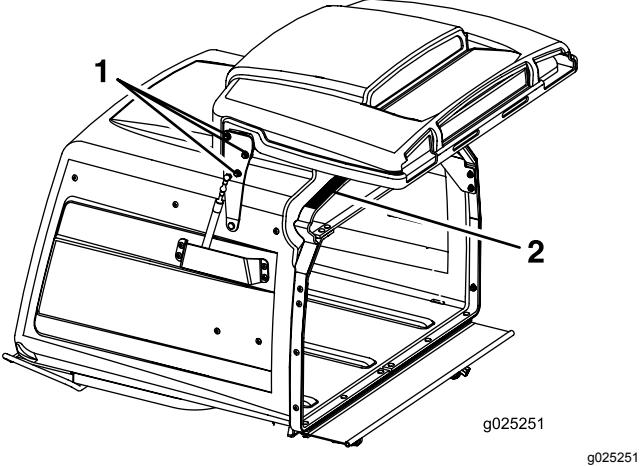

**Figure 56**
3. Locate the brake spring and thread the 2 jam nuts out to the end of the brake-spring rod (Figure 56).